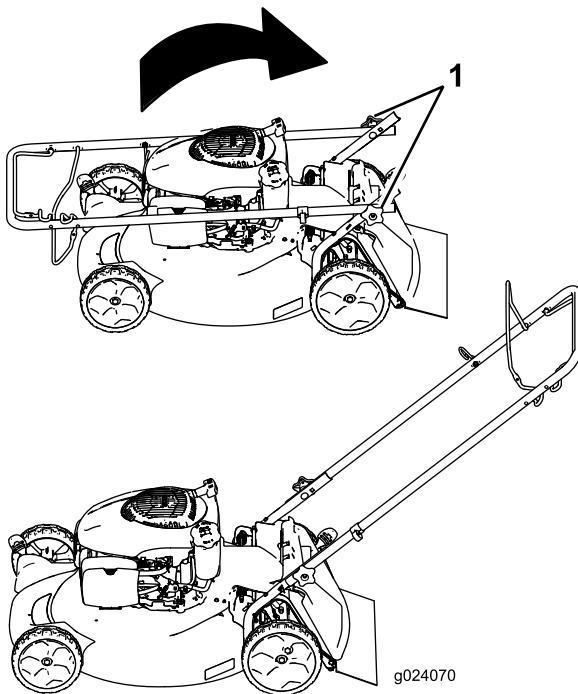

Figure 3
1. Remove the handle knobs from the machine housing (Figure 3).
1. Handle knob (2)
2. Move the handle to the operating position (Figure 3).